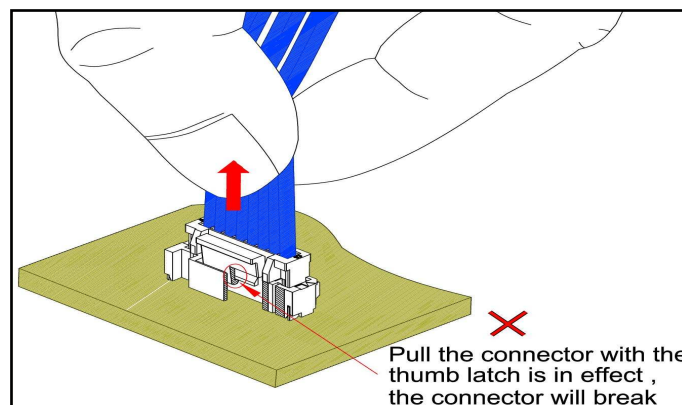

figure 4.1.2
- ※ When removing the latch, be sure to unlock completely. This connector is designed so the connector does not unlock when the thumb latch is in effect. When you try to pull the connector with the thumb latch is in effect, the connector will break. (see figure 4.1.2)